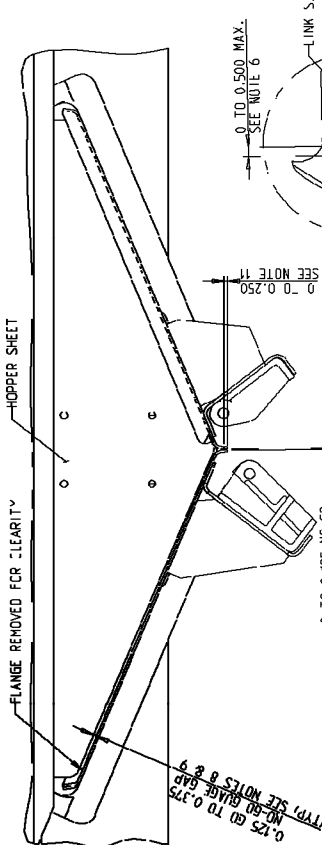

FIGURE 1
- Each pair of door lips MUST CONTACT each other at one point and have less than a 0.125" NO-GO gauge gap at any given point. SEE: FIGURE 1.
- Inside and Outside end hopper sheets to door pan gaps shall meet a 0.125" GO-gauge SEE: FIGURE 1.
- Secondary Lock Latch adjustment. The secondary lock springs theoretically have a 0.125" ± 0.125" spring tension preset. Visual inspection of contact between the Secondary Lock Latch and Spring must be witnessed. Latch to Operating Lever Pin setting. Within 3C psi, min. on the rod end of the door cylinder. minimum 3 psi between 0.063" NO-GO gauge clearance on the lever pin. The 3C psi is defined as the contact point of the pin being within the vertical flat area of the latch. SEE: FIGURE 1.
- Recommend the lower edge elevation of door lips to be within 0.250" of each other. SEE: FIGURE 1.